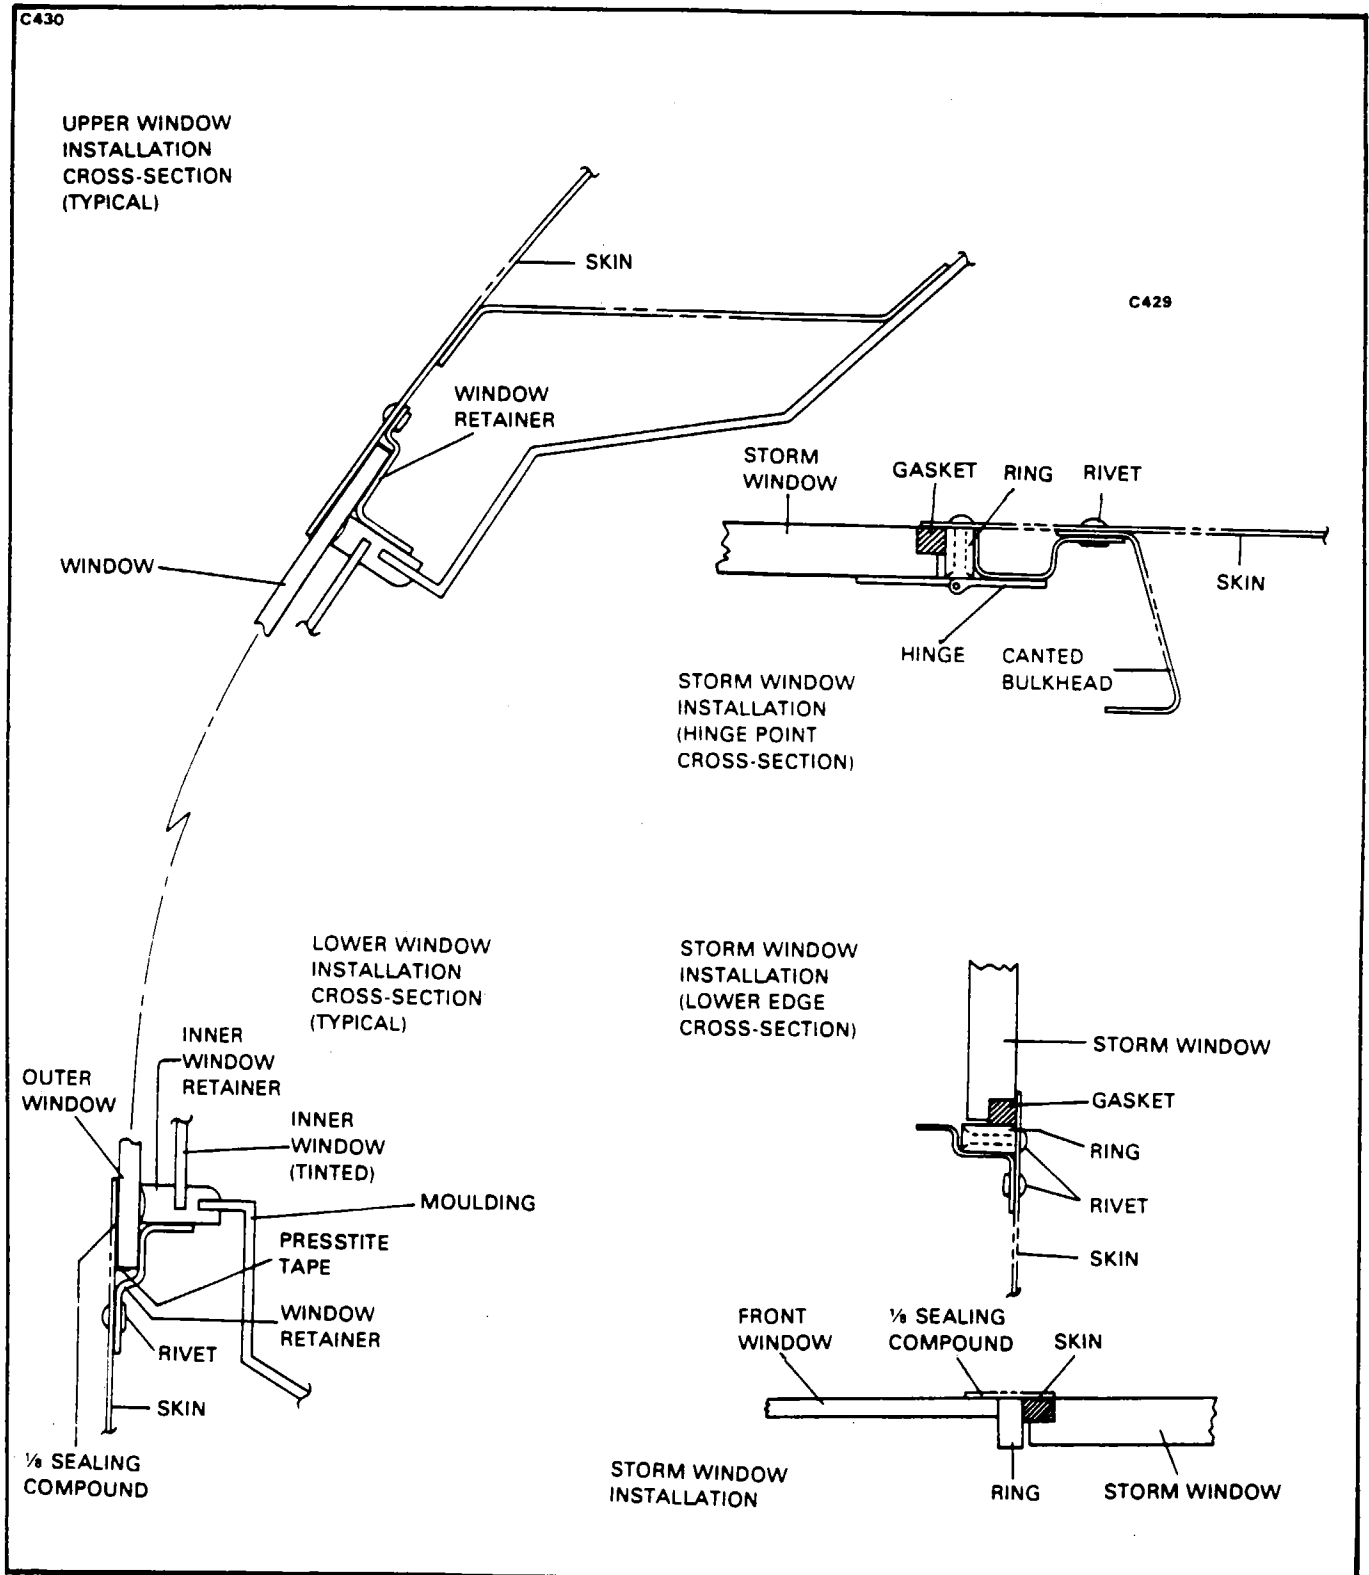

Figure 56-3. Storm Window and Side Window Installations
INSTALLATION OF SIDE WINDOWS. (Refer to Figure 56-3.)
2. Apply 1 32" x 3 16" Presstite No. 163 tape over the window edge as in Figure 56-3.